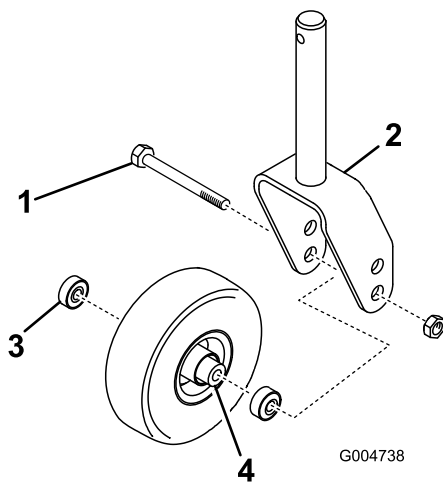

Figure 29
1. Remove the locknut from the bolt holding the castor wheel assembly between the castor fork (Figure 29). Grasp the castor wheel and slide the bolt out of the fork or pivot arm.
- Remove the bearing from the wheel hub and allow the bearing spacer to fall out (Figure 29). Remove the bearing from the opposite side of the wheel hub.